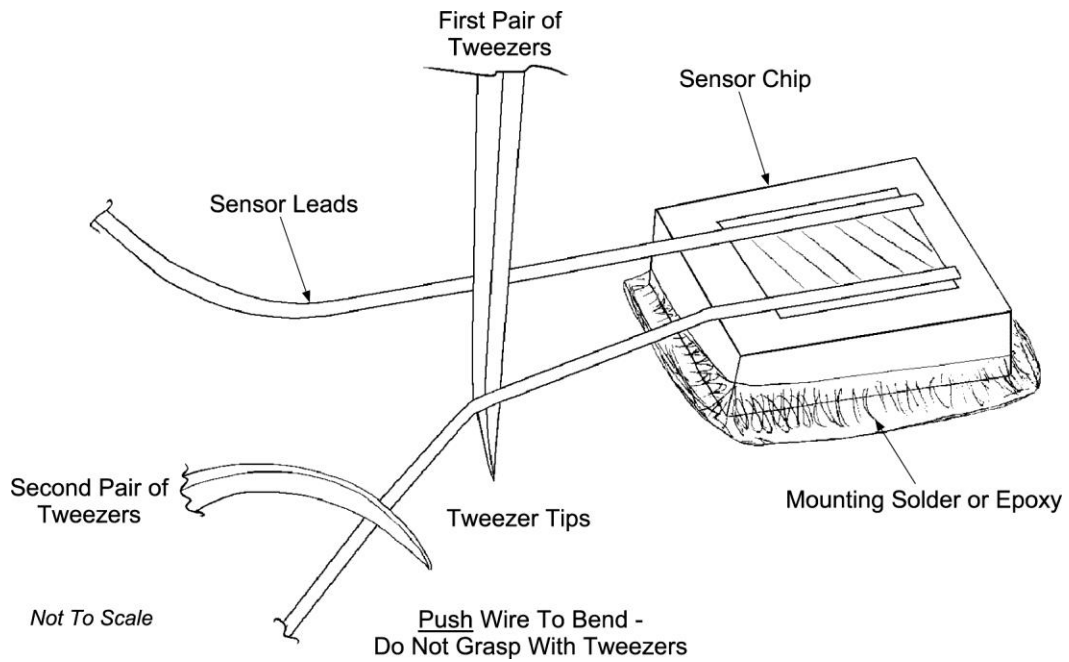

Figure 4. Push Sensor Leads To Form
4. Adjust the sensor leads into contact with the proper cable wire, and solder the joint. It is best to do this by **pushing or training** the leads into place. See Figure 4. Grasping the wire while trying to solder it is inviting wire damage. It is unnecessary to twist the sensor leads around the cable wires. Slack can be built into the leads by using two pairs of tweezers to put an "S-curve" into the wire before soldering.